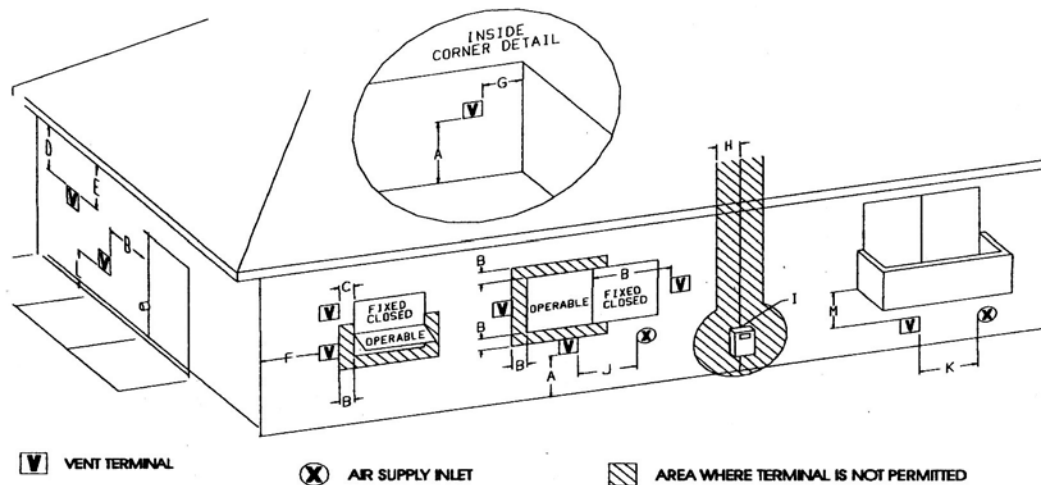

Figure 19. Vent Terminal Clearances - National Fuel Gas Code.
- Follow all termination clearance guidelines as specified in fig. 19.